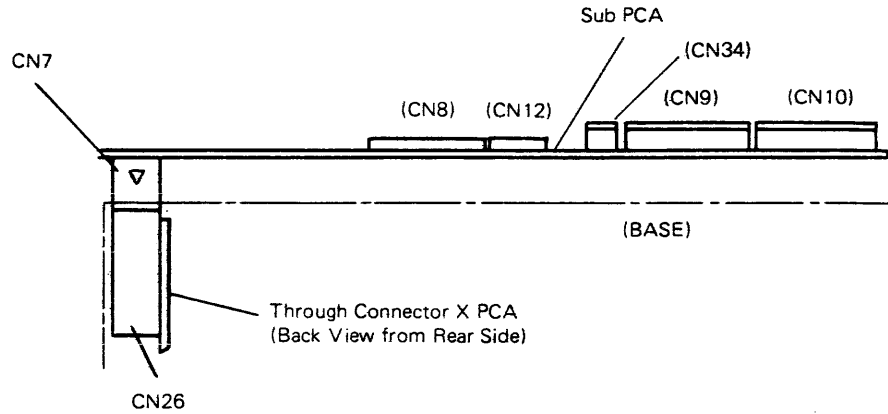

Figure 6.4 Through connector PCA connection
(1) Removal
- ① Loosen screws "B".
- ② Raise the Main PCA by lifting up the upper side-frame.
- ③ Disconnect wiring (CN5, CN6, CN8, CN9, CN10 and CN12).
- ④ Remove six screws and lift out the Sub PCA. Be careful not to damage CN7/CN26 on the Through Connector PCA. The Through Connector PCA is connected to the Sub PCA at the back of the board. Refer to Figure 6.4. CN26 will be disconnected by lifting the Sub PCA.